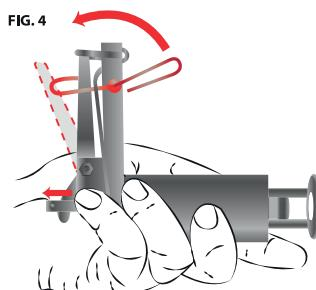

FIG. 4
- Press the cocking lever in the firing direction with your thumb and fold the safety ring backward over the cocking lever (see Figure 4). The device should always be in this position when not in use or being handled.